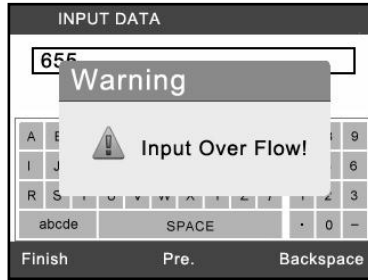

Figure 6.15
-  **NOTE:** The data you input must be in the reasonable range, which is defined by the preset values in VIN. If you enter a data out of range, the tool will display a warning message.(Figure 6.15)